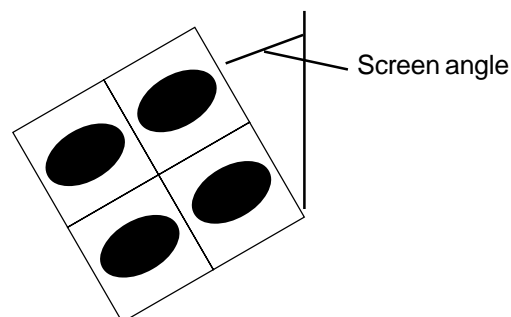

Figure ApB-2. Screen Angle
A screen is an invisible grid that is superimposed on the image — each square in the grid is a halftone cell. For a particular dot shape, the important characteristics of a screen are its spatial resolution, referred to as screen frequency, and the screen angle (as shown in Figure ApB-2).
- **Euclidian dots**—Figure ApB-2 shows circular and elliptical dots, but dots can have other shapes. These are described in detail in the RIP manual. Euclidian dot shapes vary with the screen to minimize perimeter to area ratio, which make them a good general purpose dot for black & white or color printing.